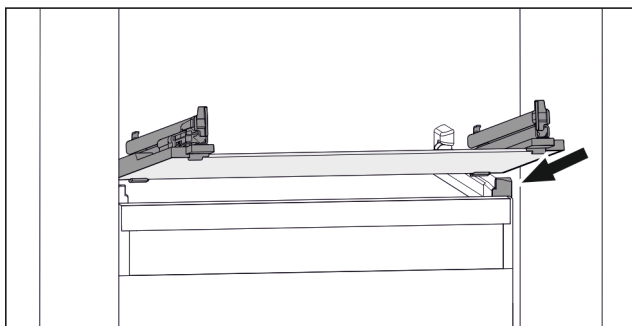

Fig. 108 Example illustration of glass shelf
- Position glass shelf at an angle behind the stoppers. (see Fig. 108)